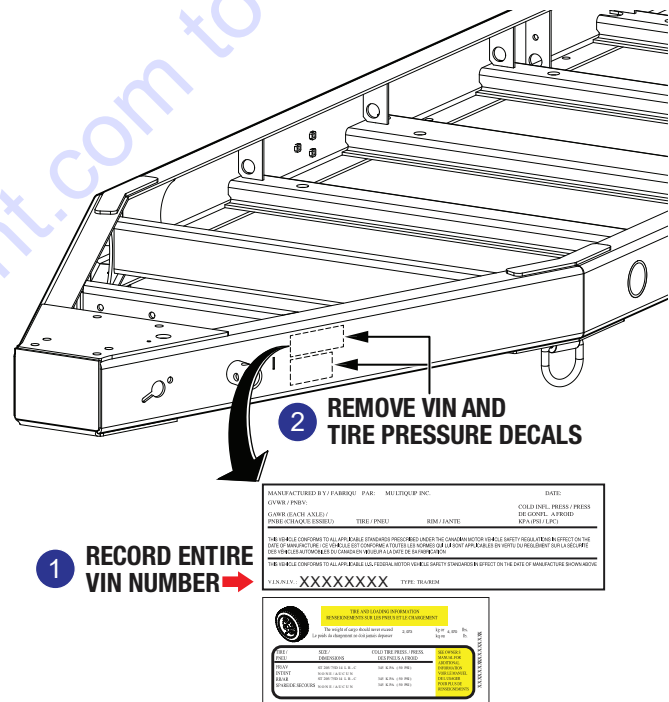

Figure 2. VIN/Tire Pressure Decal Removal
1. Record the **entire** Vehicle Identification Number displayed on the VIN decal. Also record the **last five digits** of the VIN number which are stamped into the trailer frame (Figure 2).
2. Remove the VIN and tire pressure decals (Figure 2).